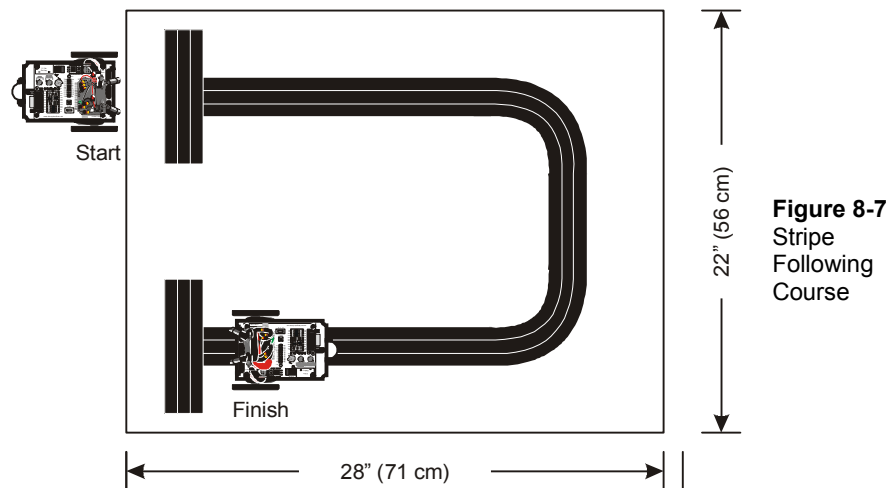

**Figure 8-7**
Figure 8-7 shows an example of a course you can build and program your Boe-Bot to follow. Each stripe in this course is three long pieces of  $\frac{3}{4}$  in (19 mm) vinyl electrical tape placed edge to edge on white poster board. No paper should be visible between the strips of electrical tape.
- (1) Roll of Black Vinyl Electrical Tape –  $\frac{3}{4}$ " (19 mm) wide.
- ✓ Use your poster board and electrical tape to build the course shown in Figure 8-7.